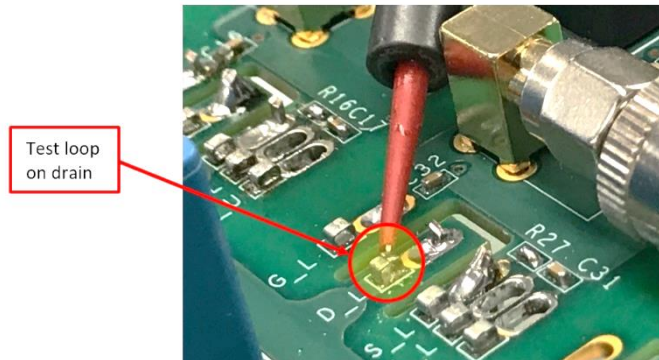

Figure 12. Test Point on the drain (TO-247-4 footprint)
Cree’s KIT-CRD-3DD12P, Buck-Boost Evaluation Kit comes with many test points (as shown in Figure 11 (a) and Figure 11(b)) to make it convenient for users to capture critical waveforms such as drain to source voltage (VDS), gate to source voltage (VGS), and drain current (ID). It is critical to take these measurements as close as possible to the device pins. On the bottom side of the evaluation kit’s PCB board, there is a test loop placed right next to the device pins for both TO-247-3 or TO-247-4 footprints (as shown in Figure 12). The test loop makes it convenient for the users to attach the clip-on probes to the PCB board.